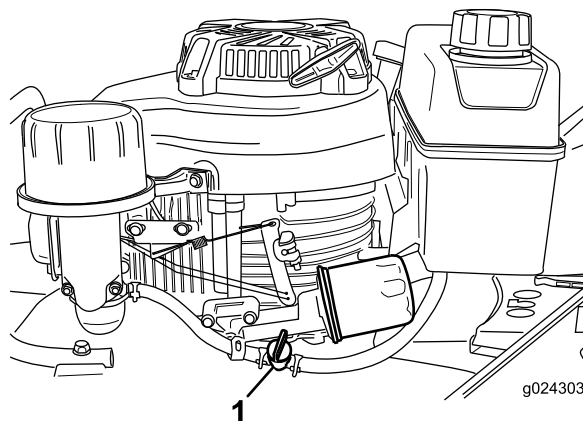

Figure 16
2. Open the fuel valve (Figure 16).